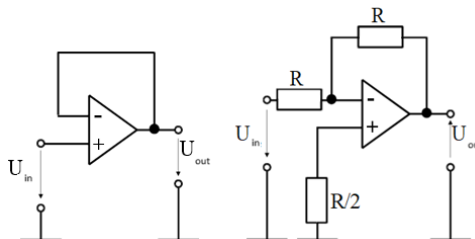

Figure 8: Non-inverting and inverting voltage followers
In Fig 8, the configurations of non-inverting and inverting unity-gain ($A=1$) followers are shown. Due to their high input impedance, they do not load the driving stage, while at the same time providing voltage-source drive for the load.
- M3: Prove by measurement that the gain of the non-inverting voltage follower (Fig 8) is $A_u = 1$! Using a function generator, apply a 1 kHz sinusoidal signal to the input of the circuit with a peak-to-peak value (Vpp) of 100 mV. Determine the upper cutoff frequency of the follower. The measurement is acceptable if the waveform is not distorted and only its amplitude decreases to $1/\sqrt{2}$ of the maximum value!